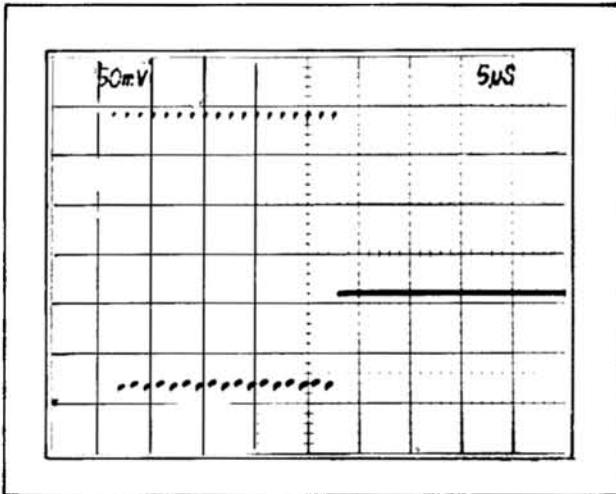

Figure 6-2. Typical display when adjusting character clock.
- e. ADJUST — C3455 (see Figure 8-48) for 18 positive pulses displayed on channel 2 of the test oscilloscope. Figure 6-2 shows a typical waveform.